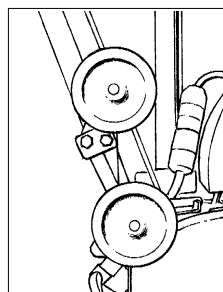

Figure 5
4. To store the dolly in the "UP" position, swing the dolly up against the top of the mainframe as far as it will travel and close the quick release levers to secure it in place. (See Figure 5)